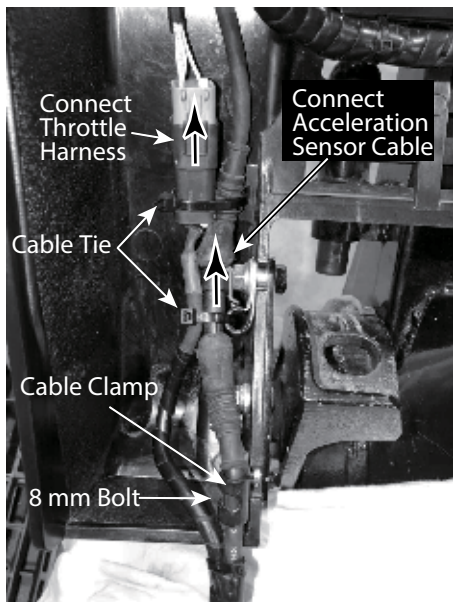

Figure 19. Sensor Cable Connections
- Connect the male connector of the acceleration sensor cable to the female connector extending from the sensor panel. See Figure 19.
- Connect the male connector of the wire harness to the female connector extending from the ECU. See Figure 19.
- Secure the cable clamp placing the acceleration cable with 8 mm bolt. See Figure 19.
- Secure those connectors and cables with the cable ties. See Figure 19.